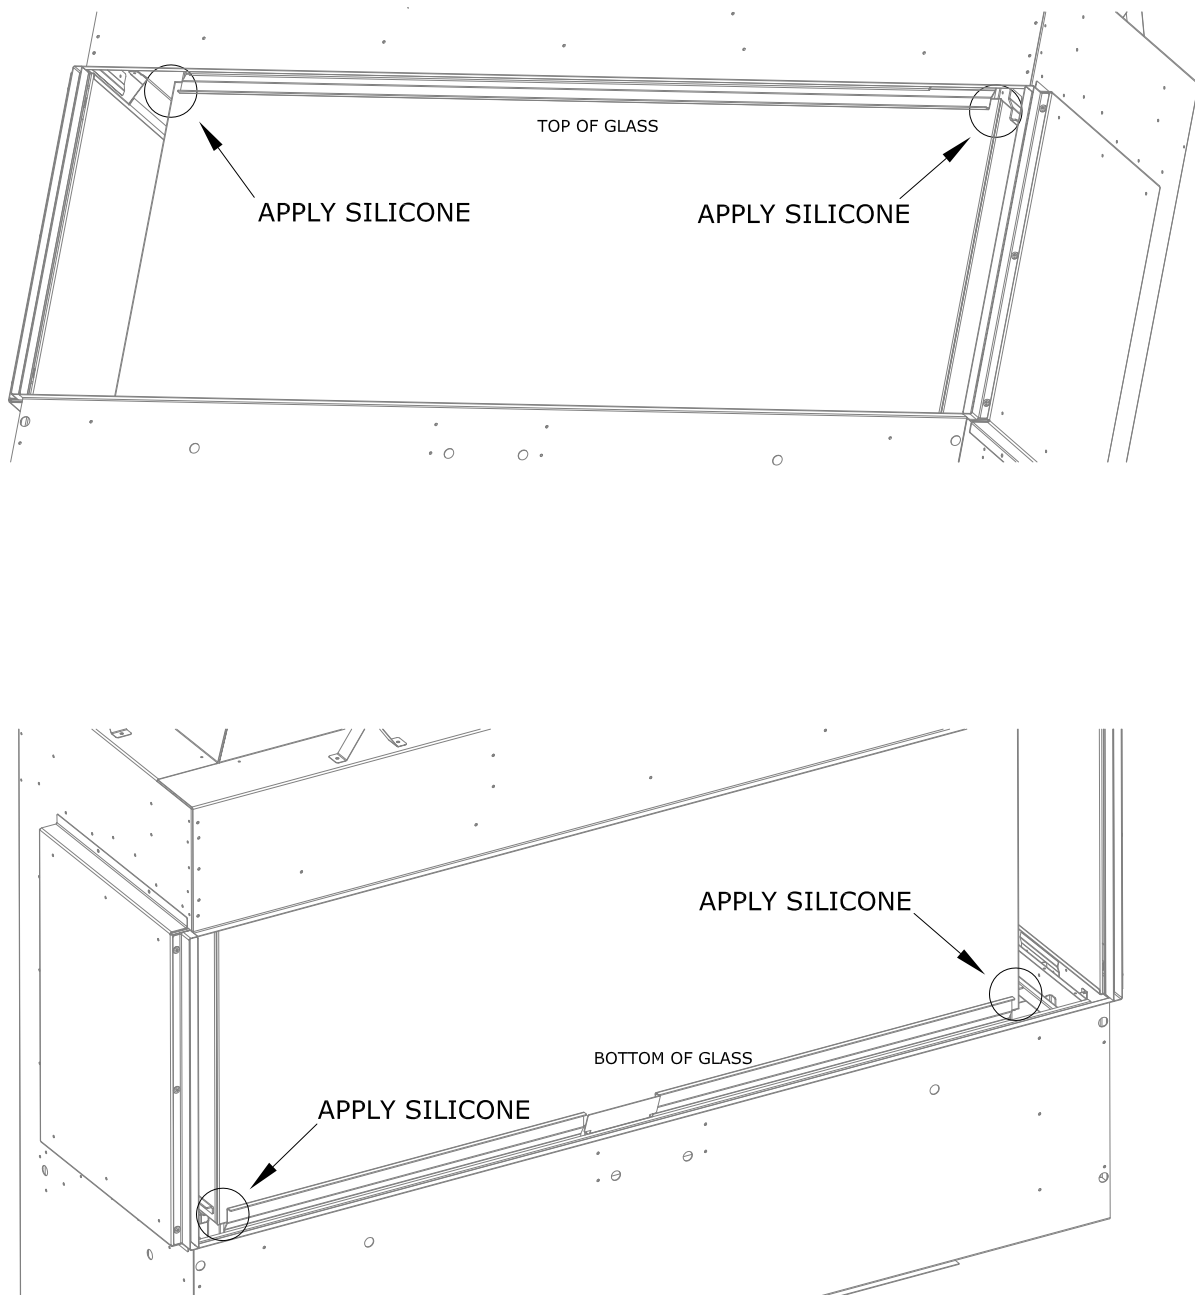

Figure 7.8 - Firebox Glass Corner Silicone Seal
5. Apply high temperature silicone to the top and bottom corners of where the front and side firebox glass pieces meet. See Figure 7.8.